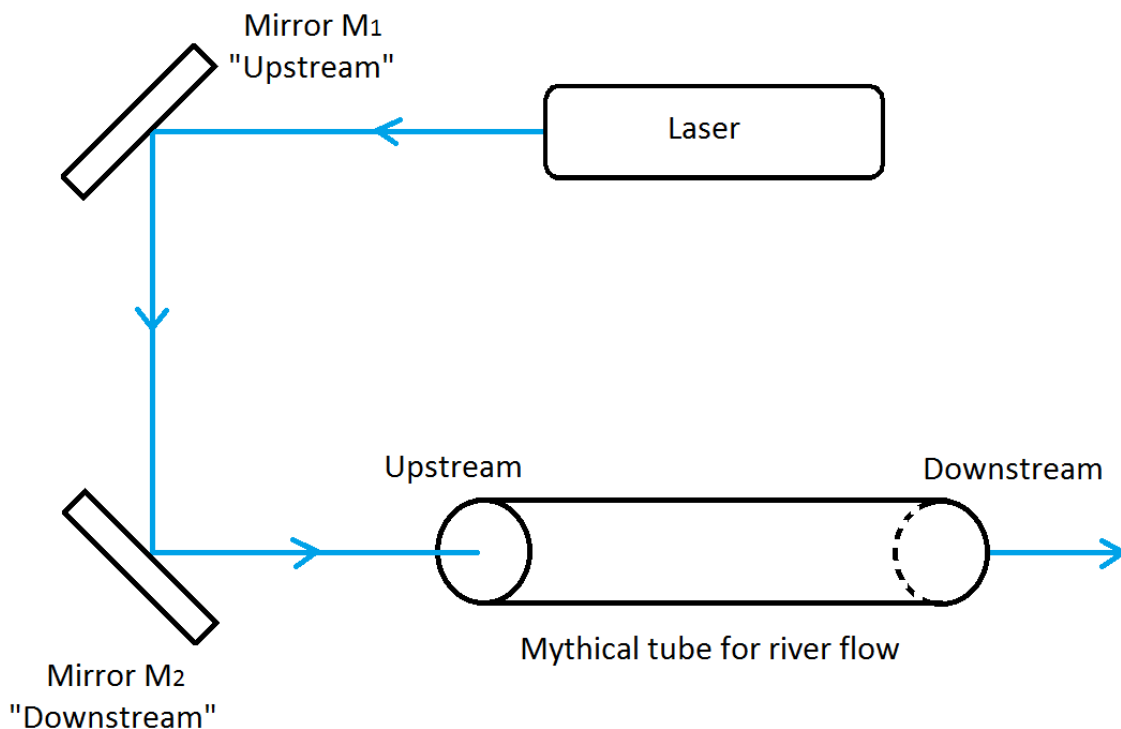

Figure 5: Upstream And Downstream Concept
-The best way to visualize this method is a water stream going through a tube as in Figure 5 below; you have an upstream (M_1) and a downstream (M_2) mirror to control the waters flow through the mythical tubes upstream and downstream ends, wanting to keep it as central as possible.